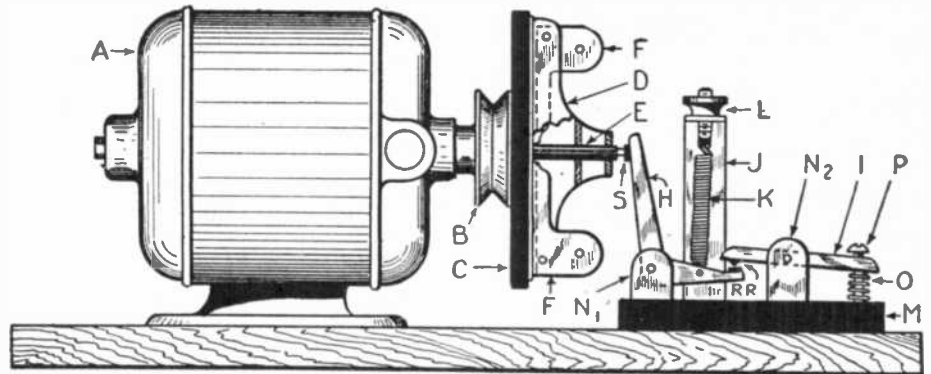

FIG. 1
Fig. 1 represents the motor with speed device complete mounted on a hard-wood base; the governor is shown partly in section. (A)—is the motor, (B)—the usual sheave wheel, C—is preferably a turned metal disc or, if facilities are not at hand for turning this, a piece of cold rolled steel  $\frac{1}{4} \times 1\frac{1}{4} \times 3$  inches will answer the purpose, but care should be taken when screwing this to the sheave wheel, to locate it centrally, so as to ensure a good balance.
(D)—Fig. 1 is the carrier for the centrifugal governor and thrust pin, and is shown partly in section. This is made of sheet brass .015-inch thick, cut to development
cold rolled steel  $\frac{1}{2}$ -inch long riveted in position as shown, to form the governor. After drilling governor arms can be assembled as shown in Fig. 1, with pins (G-G); these pins should be cut from wire about .915-inch diameter with the ends turned over side of carrier (D), so that the arms swing freely with a little side play. When assembled push-pin (E) should rest on the ends of the two arms (F-F) and is pressed forward when weights swing outwards.
H—Fig. 1 is a bell-crank lever cut from the same stock as (D) to shape of development shown in Fig. 5, bent on dotted lines, soldered along the two bottom edges, and holes drilled. (I)—Fig. 1 is a small lever cut from the same stock to development shown in Fig. 6, bent on dotted lines and drilled.
(N-1) and (N-2) are two pieces of  $\frac{1}{2} \times 3/32$ -inch brass rod bent to U-section and drilled to form bearings for levers (H) and (I), these are assembled to swing freely, and (N-1) and (N-2) are screwed firmly to bakelite block (M) in position shown in Fig. 1.
(J)—Fig. 1 is also made of  $\frac{1}{2} \times 3/32$ -inch brass rod bent as shown in Fig. 7 and screwed to block (M) in position to carry spring (K) with adjusting screw (L); the other end of spring (K) is attached to lever (H). (O) is a small compression spring and (P) is a 10/32-inch screw tapped into block (M) with large clearance hole through lever (I).